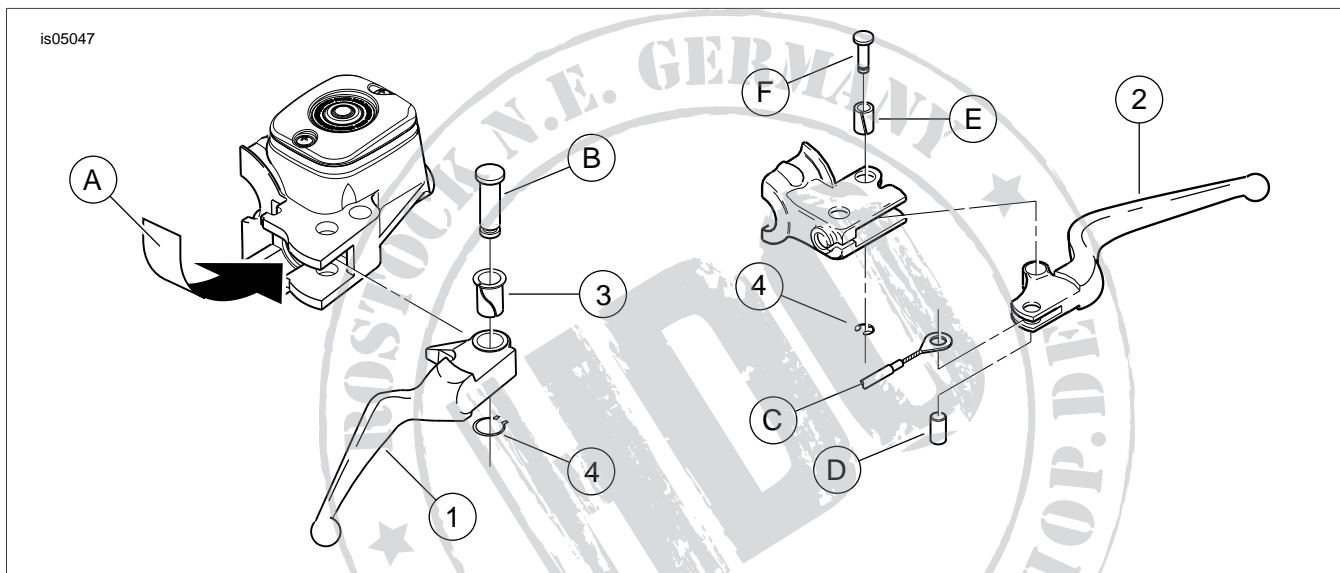

Figure 2. Service Parts: Hand Lever Kits
See Figure 2 and Table 1.
2. See the Figure 2 and the FRONT BRAKE MASTER CYLINDER section of the Service Manual. Remove the retaining ring (4) from the groove in the pivot pin (B) and discard retaining ring.